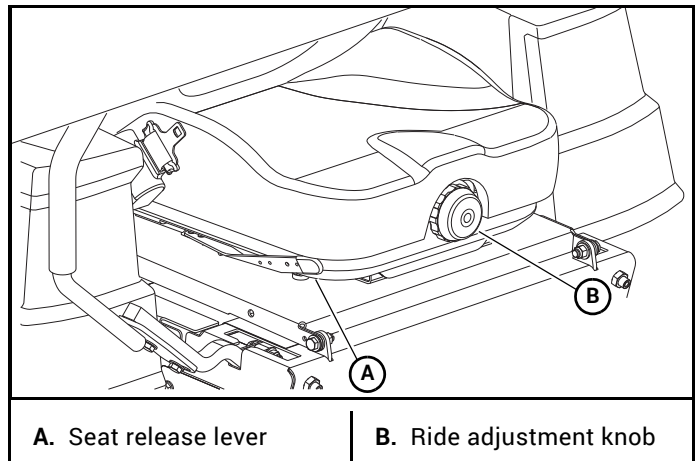

Figure 4-23
1. Use the seat release lever to slide the seat forward and rearward. Figure 4-23
2. Adjust the seat firmness by turning the ride adjustment knob. Figure 4-23